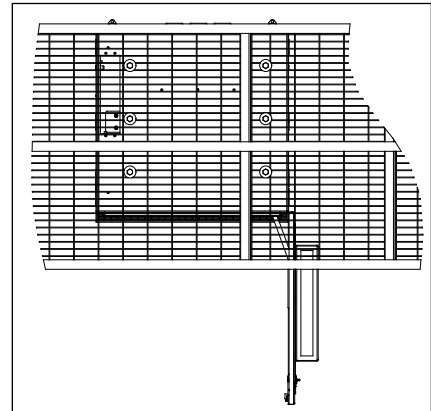

Figure 6 **Installing on a Platform**
7. To secure the CUBE to a steel grate platform, install 1/2” corrosion-resistant Grade 5 steel hardware through the cabinet and platform grate. Ensure that the bolts are long enough to extend past the nut on the bottom side of the platform grate. For all mounting applications, each bolted joint should have a minimum Ø1 inch fender washer on the inside of the cabinet (and underside of the platform grate for platform mounting) with a lock washer. The washer on the underside of the platform must be large enough to cover both adjacent bearing bars as shown in Figure 6.